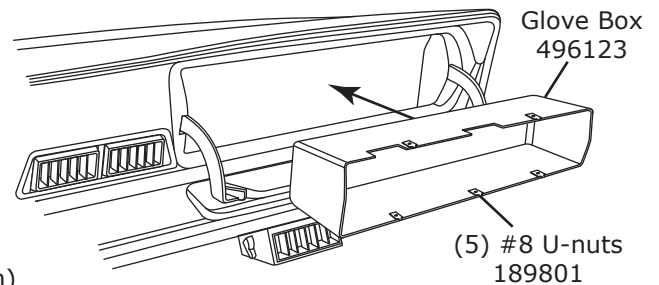

Figure 17
5. Install (5) #8 U-nuts on glove box, and install in glove box compartment (See Figure 17, below).